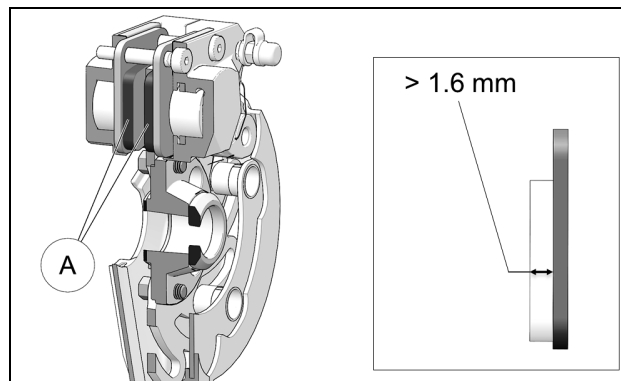

Figure 53
Inspect brake pads (A) for wear. If pad thickness is under 1.6 mm (1/16 in.), replace the parts. See Figure 53.